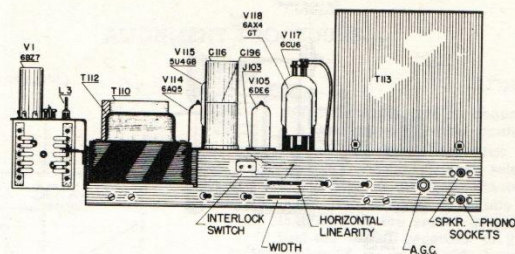

Fig. 2—Rear Chassis Layout
- 12) Adjust T105 (top) and L3 on tuner to obtain curve as in Figure 2. Nominal response of "M" derived stage shows three peaks on top of the curve. The circuit is properly adjusted when the two outside peaks are at the same amplitude and the center peak is midway between two outside peaks. T105 controls mainly position of center peak. L3 controls tilt and position of 45.75 marker.
- 15.) Position markers as in fig. 2